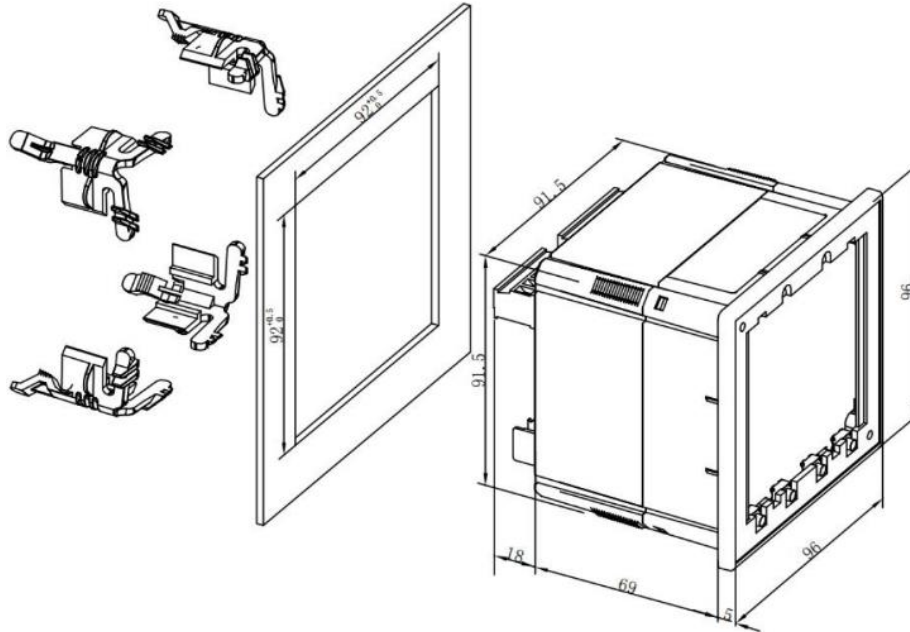

Figure 2-4 Panel Cutout Mounting
- Fit the meter through a 96mmx96mm cutout as shown in Figure 2-4